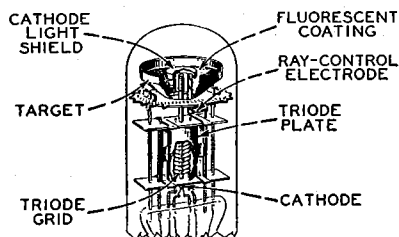

Fig. 109—Structure of electron-ray tube.
triode which operates as a dc amplifier and (2) an electron-ray indicator which is located in the bulb as shown in Fig. 109. The target is operated at a positive voltage and, therefore, attracts electrons from the cathode. When the electrons strike the target they produce a glow on the fluorescent coating of the target. Under these conditions, the target appears as a ring of light.